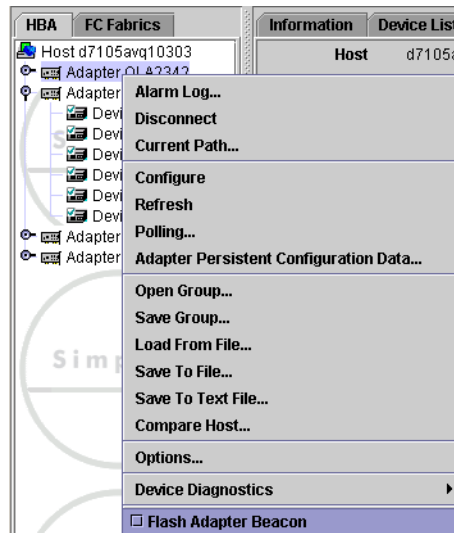

Figure 10-1. Flash Adapter Beacon
2. Select **Flash Adapter Beacon** (see figure 10-1). The QLA23xx HBA's LED begins to flash.